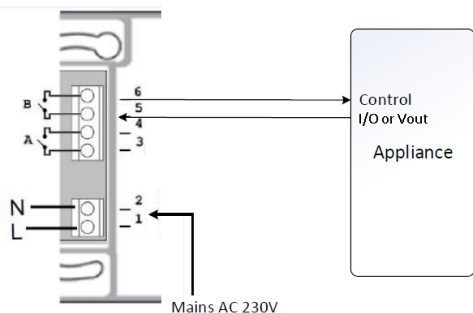
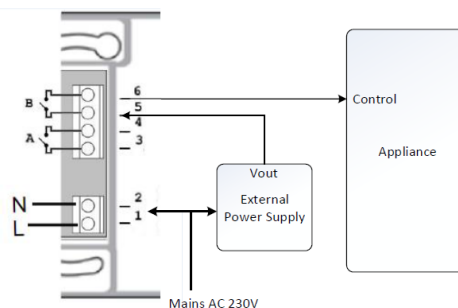

Figure 3: Connecting to appliance with internal voltage source (Vout)
Figure 4: Connecting to appliance with external voltage source
5. Connect the load wires to the terminal blocks (see Figure 4, Figure 5 and Figure 6):
- Dry-contact 250V / 13A maximum (connections 3, 5) - to a dedicated voltage source from the appliance (see Figure 3), or an external power supply according to the input control specifications of the appliance (see Figure 4).